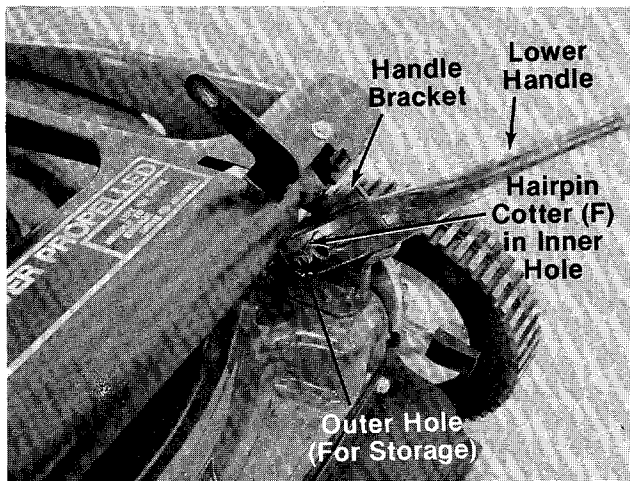

FIGURE 2.
- B (1) Curved Head Carriage Bolt
- C (2) Lock Washers 5/16" I.D.
- D (2) Hex Nuts 5/16-18 Thread
- E (2) Cable Ties
- F (3) Hairpin Cotter
- G (1) Spring
- H (1) Ferrule
- I (1) Clutch Rod
- ← 3. Attach the lower handle by placing the bottom holes in the lower handle over the weld pins on the handle mount brackets. Make certain the instruction label on the lower handle can be read from the operating position. Secure with hairpin cotters (F) in inner holes on weld pins. See figure 2.